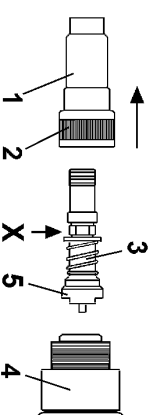

fig 3
- 4.5. **To change the torque.** (Do this operation in a clean area.) Refer to fig 3.